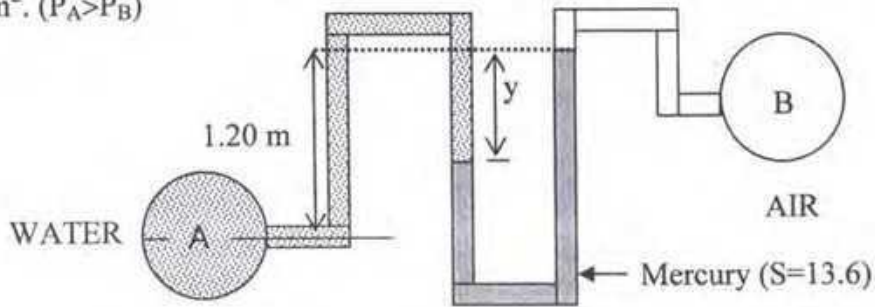

Figure 2
- c. Compute "y" in Figure 2 if the pressure difference between points A and B is 150.00 kN/m^2 . ($P_A > P_B$)